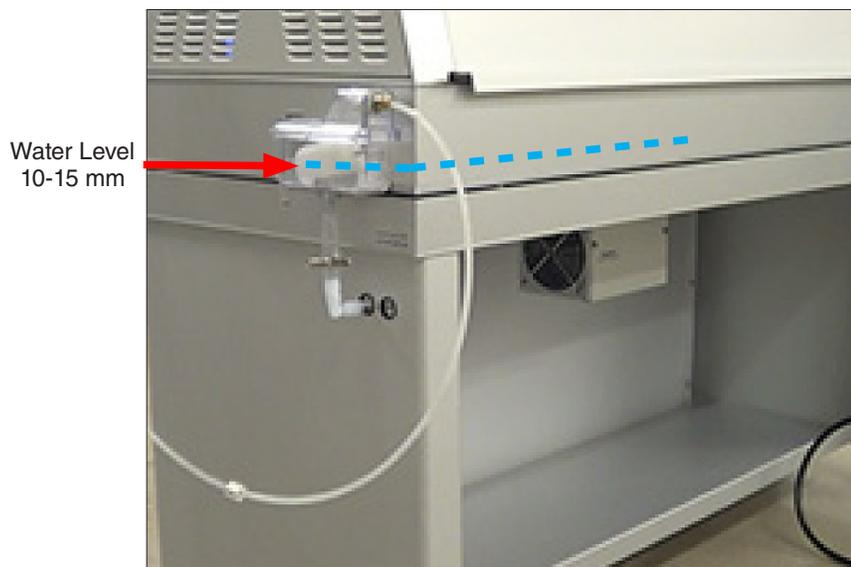

Figure 6.4c: Water level for all models without spray.
- The water level in the water pan should be 10 mm to 15 mm high (Figure 6.4c).